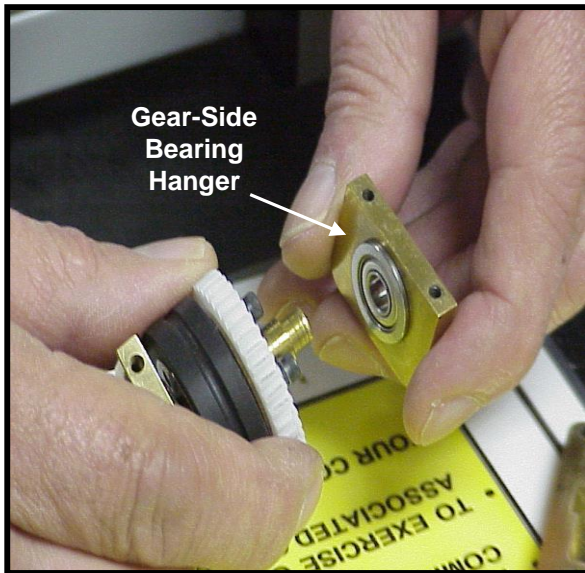

Figure 40
13.5.2.5 Slide Gear-side Bearing Hanger off the hub shaft. See Fig. 40